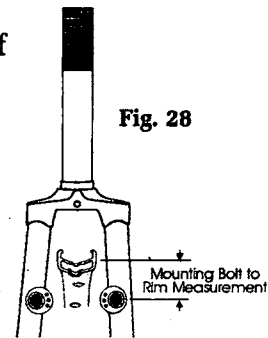

Fig. 28
Like caliper brakes, cantilever shoes have a range of adjustability for different frames and rims. Brake reach compatibility on a frame or fork is measured in a similar manner as caliper brakes. It is a measurement from the center of the brake boss mounting bolt to the center of the braking surface of the rim (see figure 28). It may be more accurate, however, to measure from the lower edge of the boss to the center of the rim and then subtract 4 millimeters (half the boss width). This is the preferred method whenever trying to measure to the somewhat nebulous center of a hole. The measurement is the same for all cantilever designs.
Step 2 - Measure the mounting bolt to rim measurement of the frame and fork using vernier calipers. Measure from the center of the cantilever brake boss to the center of the sidewall of the rim (see figure 28). Write down your answer below.